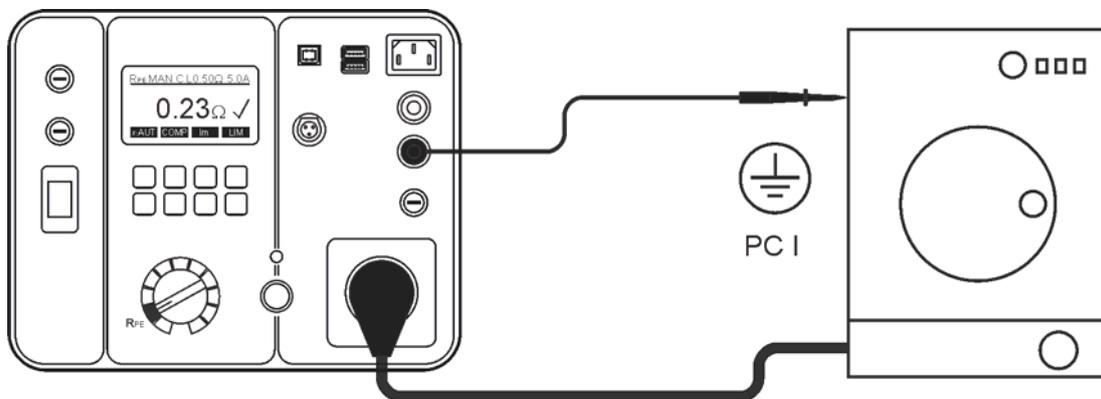

Figure 9: Protective earth bond test connections at appliance with mains plug. Use probe 1
- Connect the appliance and the PROBE 1 test lead according to the figure 9 or 10.